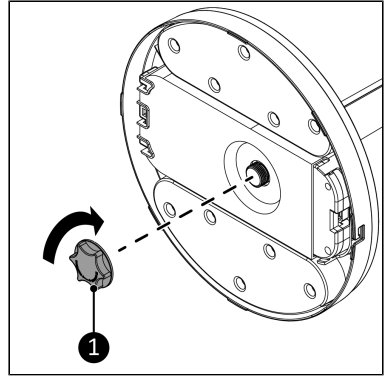

Figure 25.
4. Place the base safety screw (Figure 25, pos. 1) and turn it clockwise to secure the base.